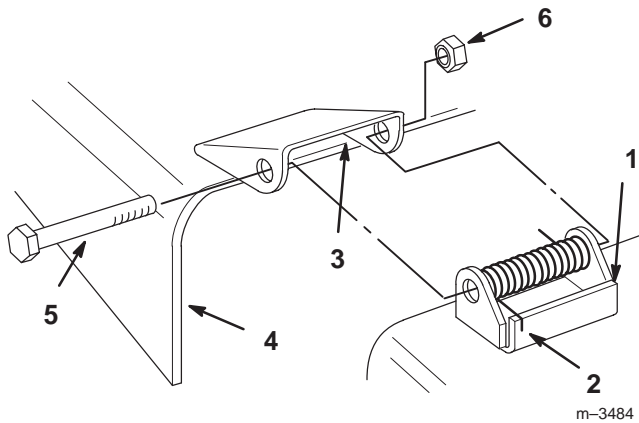

Figure 1
1. Place the springs into the brackets on the mower with the hooked ends over the raised back of the bracket (Fig. 1).
2. Align the discharge chute with the holes in the brackets and the spring straight ends in the space under the hinge and above the chute (Fig. 1).
3. Secure the chute to the bracket with bolts through the discharge chute, springs, and brackets. Secure them with locknuts (Fig. 1).